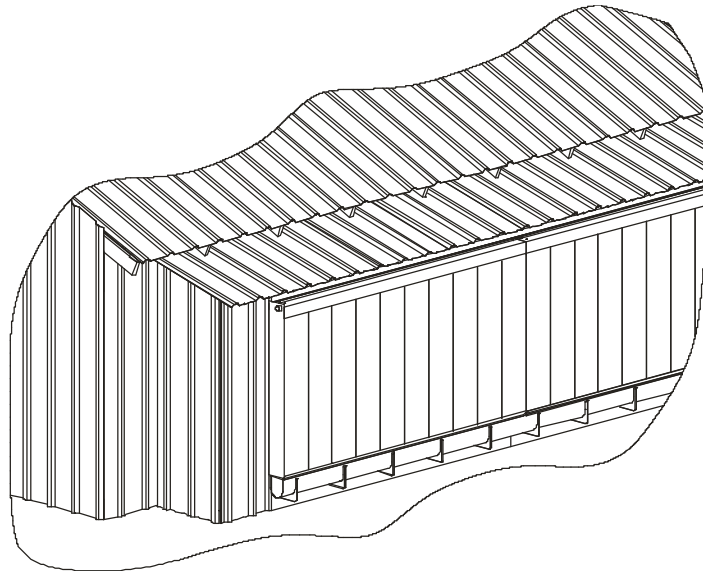

Figure 8
10. Install the Kool-Cel® system and cover the portion of the wall that is not covered by the Kool-Cel® system. The completed system should look like Figure 8.